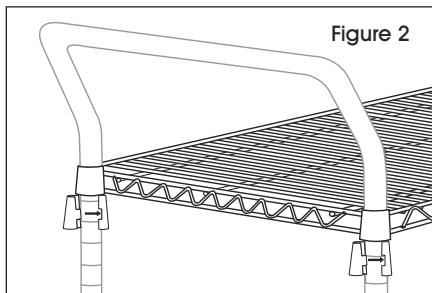

Figure 2
- Snap the interlocking pieces of an aluminum shelf support (wide end down) around the post at the highest groove where shelf is to be located. Slide the support up or down until it snaps into the groove. Add an aluminum shelf support to the same place on the remaining posts. (See Figure 2)